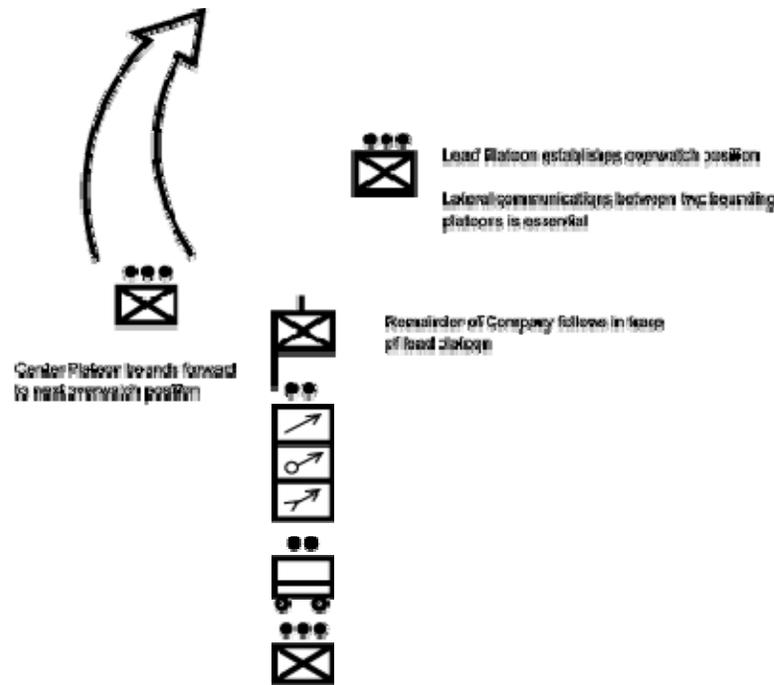

Figure 2. Bounding Overwatch Drill.
- III. **Bounding Overwatch Drill.** Lead platoon and center platoon alternate leap frogging each other, each platoon stopping to establish a position from which to support the other platoon's movement forward. Remainder of column follows in trace. *See Figure 2.*